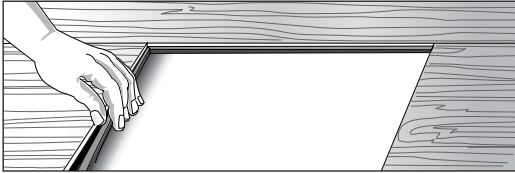

Fig. 51
11. Remove splines, and fill the newly milled grooves in the opening with Armstrong S-1800 Laminate Flooring Glue or Bruce EverSeal. Use a small piece of spline to force the glue into the grooves (Fig. 51). Insert the spline into position from left to right so as not to trap glue in the groove.